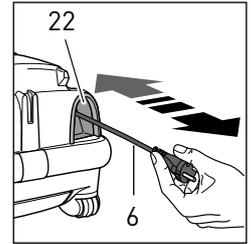
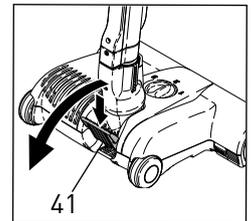
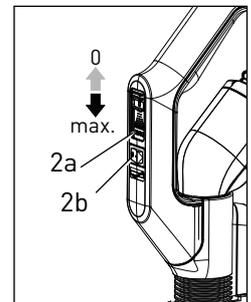

Figure 1
Figure 3 - K3
Figure 4 - K3
### K3 Premium Users - Figures 1, 2, 3 & 4
1. With the canister main power knob (9) in the OFF position, and the suction-control slider on the handle (#2a, figure 4) in the OFF position, pull the power cord out from the base of the canister (figure 1). The power cord should be unwound from the cable reel at least two thirds of its length.
3. Press the main power knob (9) on the base of the canister gently with your foot or hand. The green light (10) will illuminate indicating that the power is on..
4. Slide the suction-control slider (#2a, figure 4) toward the MAX position. It will move freely between 0 suction and MAX suction. Set the slider to the suction desired.
5. When the power head is on with the handle in the upright locked position, the brush roller will not spin. To release the ET-1 power head from the upright locked position, press down on the foot pedal, (#41, figure 3), lower the handle into the normal operating position and push the brush roller switch on the handle (#2b, figure 4) to engage the brush roller. The green light on the power head will illuminate. The handle can be lowered to a horizontal position useful for vacuuming under beds.
### K2 Turbo and K2 Kombi Users - Figures 1 & 2
1. With the canister main power knob (9) in the OFF position, pull the power cord out from the base of the canister (figure 1). The power cord should be unwound from the cable reel at least two-thirds of its length. **Note:** do not over-extend the cord.
3. Press the main power knob (9) on the base of the canister gently with your foot or hand.
### K3 Premium Users - Figure 4